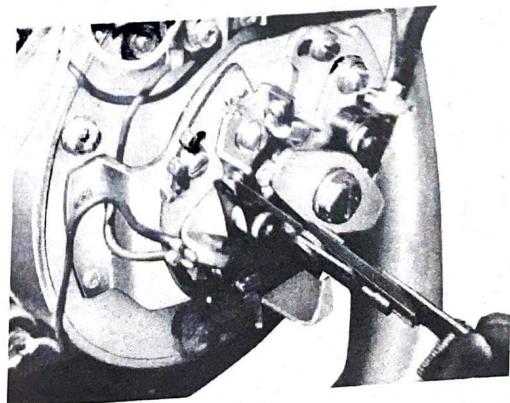

Fig. 6-5-15
- b. Set the point gap at 0.30 ~ 0.40 mm (0.010 ~ 0.015 in.) by moving the breaker plate. (Fig. 6-5-15)